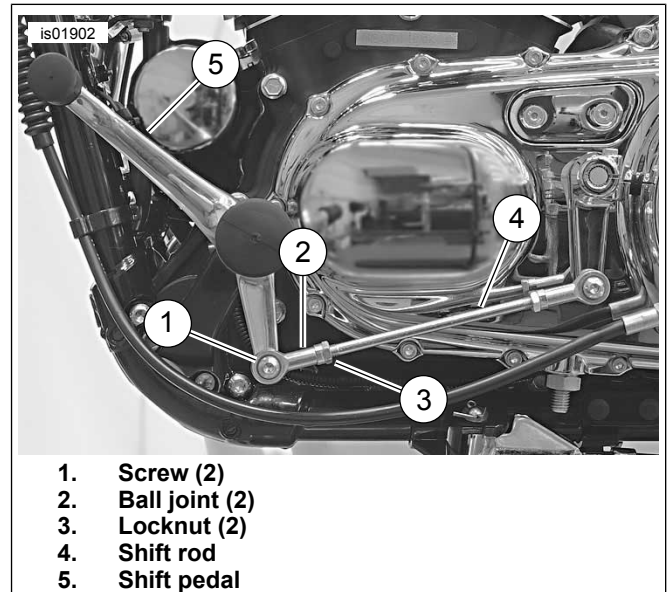

Figure 4. Adjusting Shift Pedal
- a. Make sure spring washer is positioned inside footpeg clevis (10) with square edge toward inside.
- c. Secure clevis pin using **new** retaining ring (20).
1. See Figure 4. Remove screw (1) securing ball joint (2) to shift pedal (5).
2. Turn ball joint or shift rod (4) to adjust rod length.
3. When pedal angle is at 45 degrees, install screw (1). Tighten.